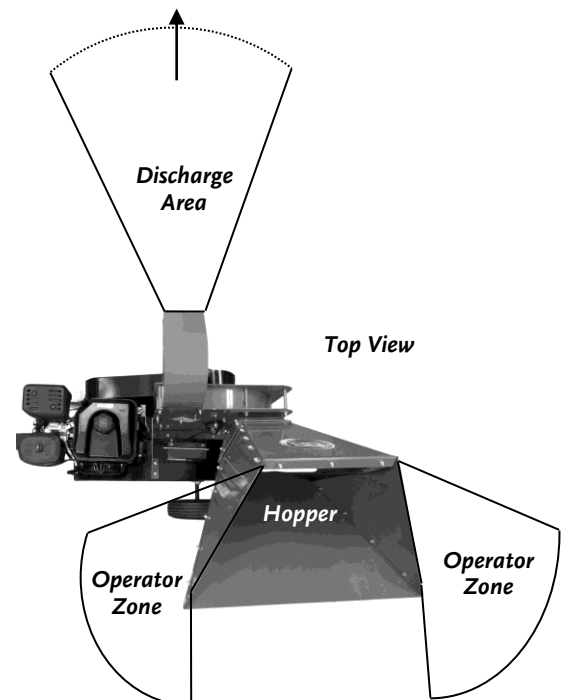

Figure 25
- Only operate the DR SELF-FEEDING WOOD CHIPPER from the Operator Zones shown (**Figure 25**).